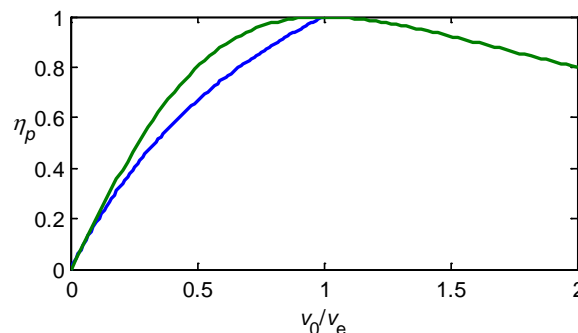

Fig. 2. Propulsion efficiency,  $\eta_p$ , vs. flight speed to exit speed ratio,  $v_0/v_e$ , for a rocket (green line) and an air-breathing engine (blue line).
Propulsion efficiency  $\eta_{\text{p}}$  (i.e. of the propeller itself) is zero at rest, and varies with advancing speed to a maximum value of about  $\eta_{\text{p}} = 0.9$ , as later shown in Fig. 2.
As always, the propulsion efficiency is zero at  $v_0=0$  (there is thrust but not propulsion), and grows to 1 as the exit speed decreases towards the flight speed (but contrary to turbojets, the thrust does not approach zero at  $v_e=v_0$ , and the advancing speed of the rocket may be larger than the exit flow speed, as typical in orbital rockets). Efficiencies (15) and (11) are plotted in Fig. 2.